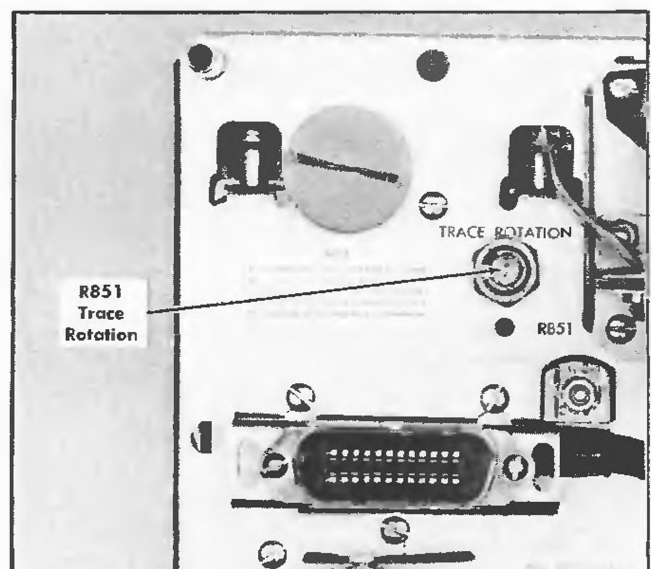

Fig. 6-9. Location of Trace Rotation adjustment (rear panel).
c. **ADJUST**—Trace Rotation adjustment, R851 (see Fig. 6-9), so the trace is parallel with the horizontal graticule lines.